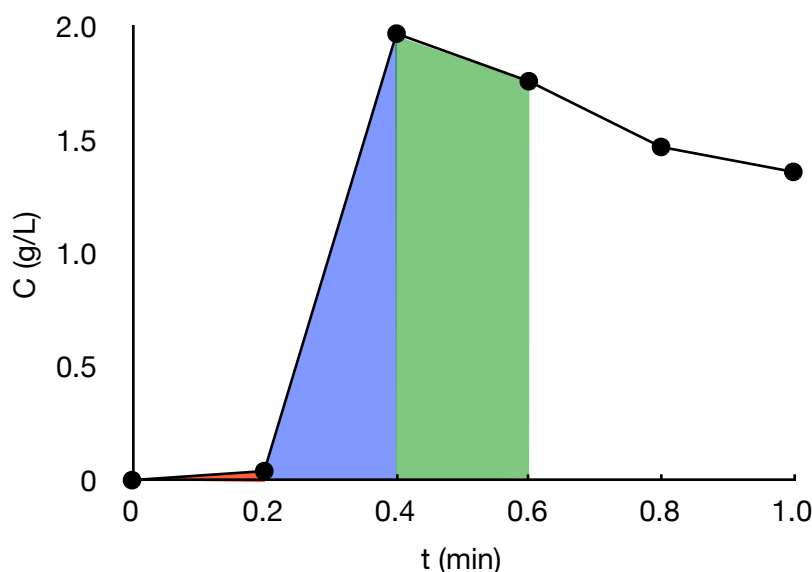

Figure 1. Integration using the trapezoid rule.
Since we do not have a functional form for  $C_{out}$ , but instead, a set of discrete values, the integration must be performed numerically, for example by use of the trapezoid rule. Figure 1 illustrates the evaluation of the integral in equation (4) using the trapezoid rule. First, since the integrals begin at  $t = 0$ , a data point is added at the top of the table ( $t = 0$ ,  $C = 0$ ) since we know that there is no tracer in the outlet at the time the impulse is applied. To perform the integration,  $C$  is plotted versus  $t$ , as shown in the figure, and the data points are connected with straight line segments. The integral from  $t = 0$  to  $t = 0.2$  (the first
data point) is then taken to equal the area of the red trapezoid in Figure 1. The integral from  $t = 0$  to  $t = 0.4$  is taken to equal the area of the red trapezoid plus the area of the blue trapezoid. The integral from  $t = 0$  to  $t = 0.6$  is taken to equal the area of the red trapezoid plus the area of the blue trapezoid plus the area of the green trapezoid, and so on. The application of the trapezoid rule to evaluate equation (4) can be performed manually, using a spreadsheet or using mathematics software, and a value for  $F(\lambda)$  can be calculated for each data point in the data table.
At this point, the only task remaining is to plot the results. For that, standard MATLAB plot commands are used, and Figure 1 shows the result. The plotting commands are included in the file `Example_11_4.m` which accompanies this example.